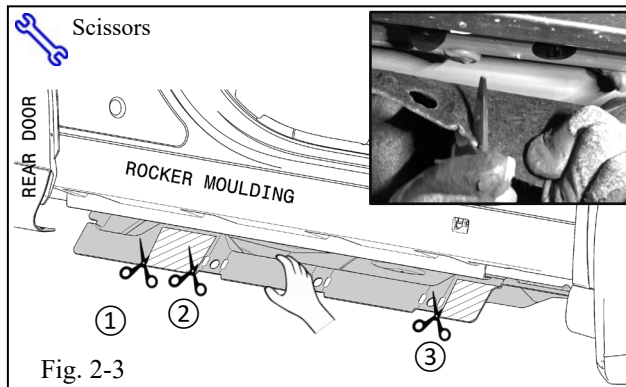

Fig. 2-3
- (b) Pull down the undercover exposing the trimming guidelines molded into the surface at each bracket location (Fig. 2-3).
- (c) Using scissors, carefully cut along the vertical guidelines at each bracket location. There are three (3) in total, only cut along the vertical direction (Fig 2-3).